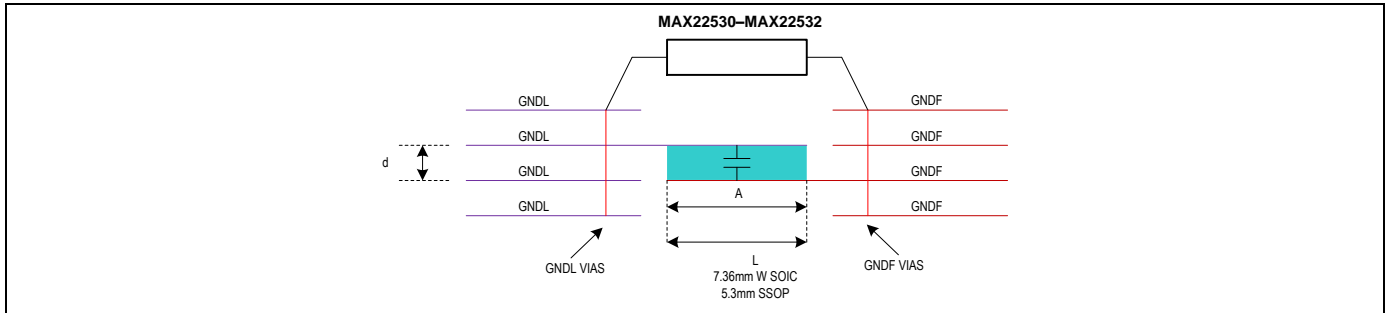
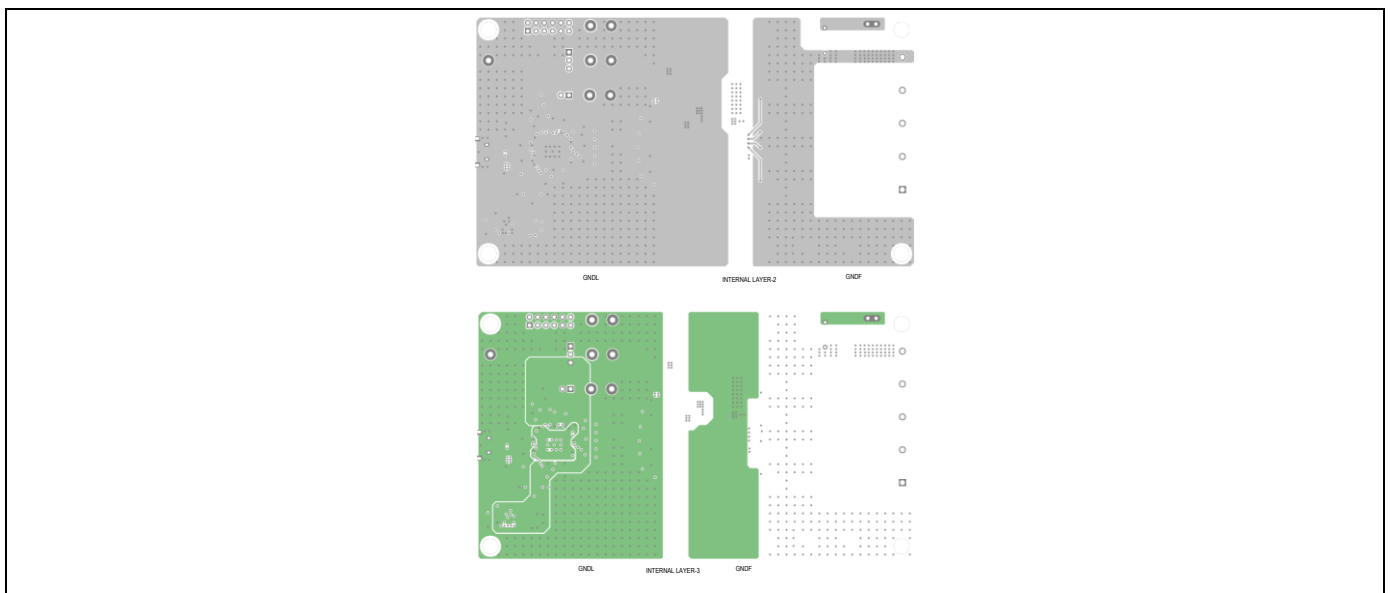

Figure 5. Stitching Capacitance Example on a 4- Layer PCB
Figure 6. Stitching Capacitance on Internal Layers
- Extend the GNDF and GNDL planes on two adjacent layers so they overlap each other; thus, creating a stitching capacitance between GNDL and GNDF. See Figure 5 and Figure 6.